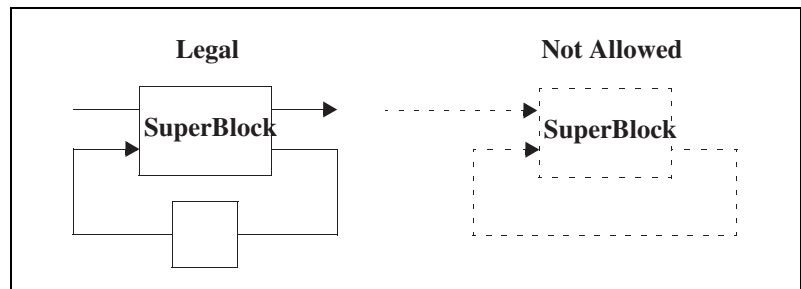

Figure 4-2. Legal and Illegal Connections
- SuperBlock outputs cannot be directly connected to its inputs. The output signal must first pass through another block (refer to Figure 4-2).